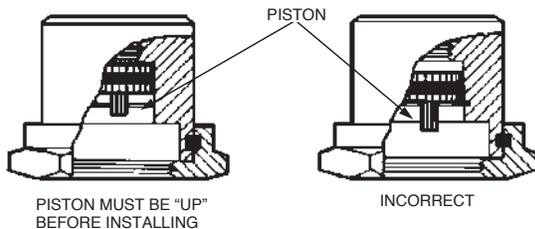

FIGURE 8-7
1. Ensure that pneumatic valve actuator internal piston is in the full “UP” position by forcing the piston up, by hand or with a short length of 1/8 in. to 1/4 in. pipe. See Figure 8-7.